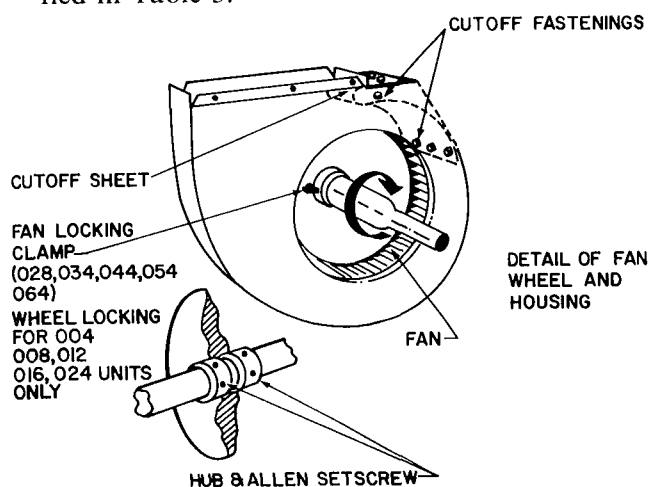

Fig. 12 — Fan Locking Detail
1. Loosen setscrews holding wheel support to shaft (Fig. 12).
1. Loosen fan wheel locking clamps on each side of fan support (Fig. 12).